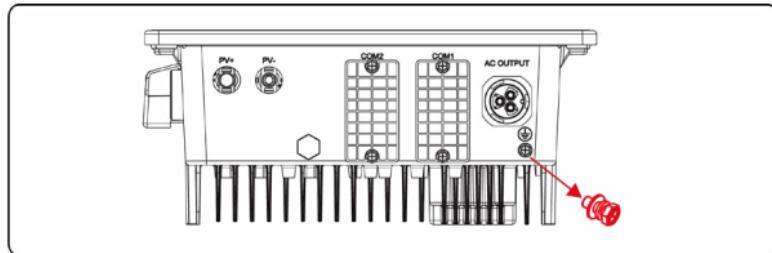

Figure 5.3 Crimping a cable (unit: mm)
**Step 3** Remove the ground screws from the ground points, as shown in **Figure 5.3**.